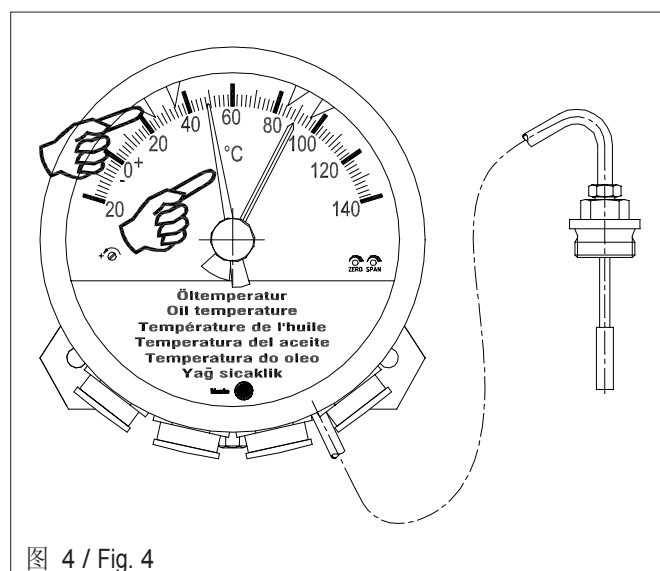

图 4 / Fig. 4
4.3 微动开关的检验及调节（图4）
如检查位于指针左侧的微动开关，则应当用手顺时针推动指针通过微动开关并返回。返回弹簧会将指针拉回至原来位置。（图4）
4.3 Checking and adjusting the microswitches (Fig. 4)
To check the microswitches which are located to the right of the pointer, turn the pointer clockwise by hand past the microswitches and back. A return spring pulls the pointer back to its original position (Fig. 4).